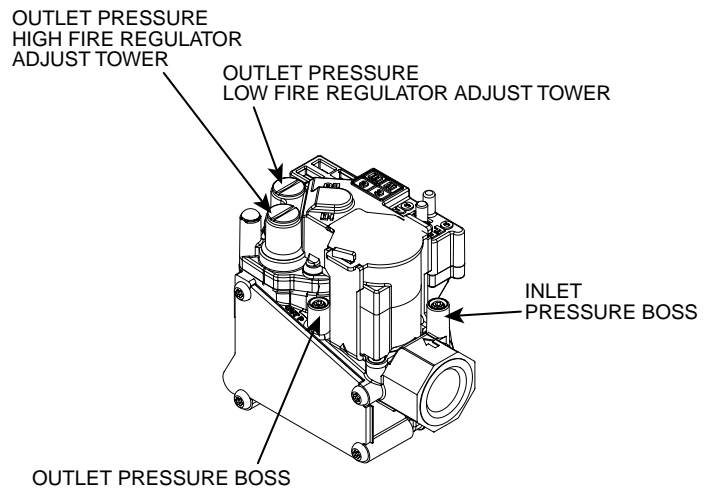
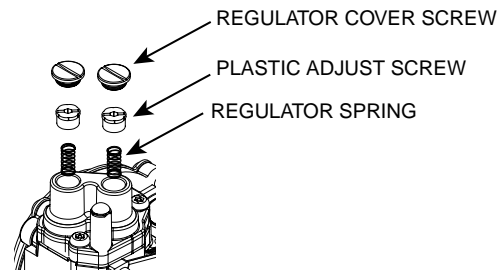

Figure 5
Figure 6
2. Back outlet pressure test screw (inlet/outlet pressure boss, see fig. 5) out one turn (counterclockwise, not more than one turn).
3. Attach a hose and manometer to the outlet pressure boss of the valve (see fig. 5).
5. Remove regulator cover screw from the low outlet pressure regulator adjust tower (fig. 5) and turn screw clockwise (↻) to increase pressure, or counterclockwise (↺) to decrease pressure (see fig. 6) Always adjust regulator according to original equipment manufacturer's specifications listed on the appliance rating plate. Replace regulator cover screw.
7. Remove regulator cover screw from the high outlet pressure regulator adjust tower (fig. 5) and turn screw clockwise (↻) to increase pressure, or counterclockwise (↺) to decrease pressure (see fig. 6) Always adjust regulator according to original equipment manufacturer's specifications listed on the appliance rating plate. Replace regulator cover screw.